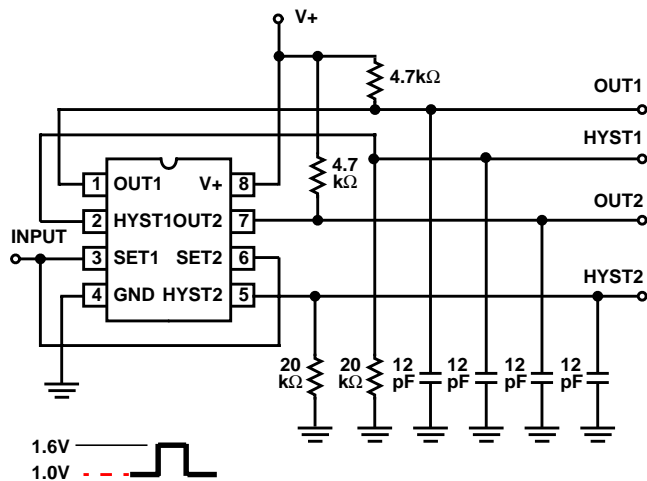

FIGURE 7. TEST CIRCUITS
**Electrical Specifications** The specifications below are applicable to both the ICL7665S and ICL7665SA. V+ = 5V, TA = 25°C, Test Circuit Figure 7. Unless Otherwise Specified
**Electrical Specifications** The specifications below are applicable to both the ICL7665S and ICL7665SA.  $V_+ = 5V$ ,  $T_A = 25^\circ\text{C}$ , Test Circuit Figure 7. Unless Otherwise Specified **(Continued)**